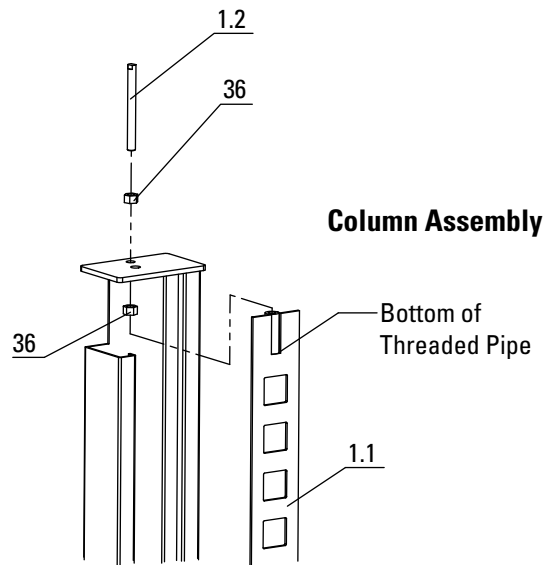

Fig. 2-7-2
Refer to Fig. 2-7-2. Note assembly is exploded for clarity. Ladder bar must already be installed inside column. Assemble M20 Nut (36) to Adjustment Rod (1.2). Insert through top of column being sure to use hole nearest the outside of the column. Install second M20 Nut. Thread Adjustment Rod into Ladder Bar (1.1). Note, the thread should stop flush with bottom of threaded pipe welded to ladder bar. It is possible to thread adjustment bar down too far. This will not allow for proper adjustment of ladder bar because of the lack of remaining threads.